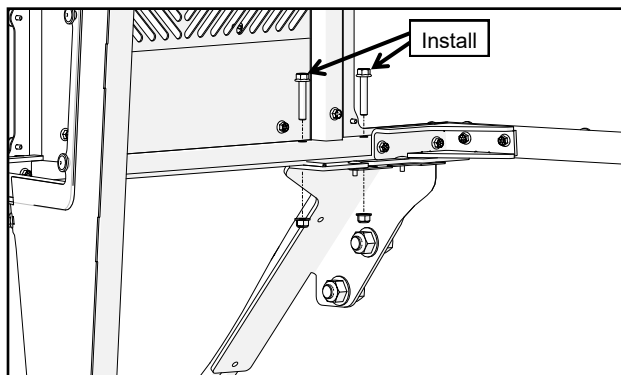

Fig. 2.7 (Install Back of Cab Screws)
- 2.7 Install the back of the cab to ROPS mounts per Figure 2.7.